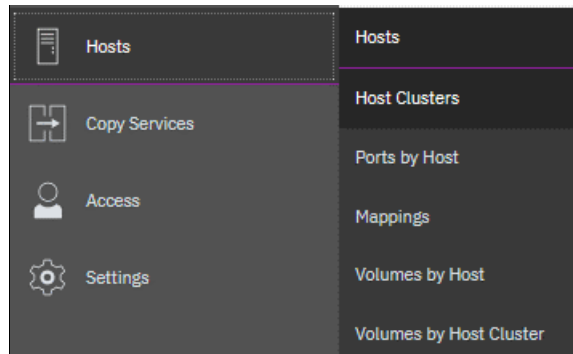

Figure 7-26 Host clusters menu
1. From the menu on the left, select **Hosts** → **Host Clusters** (see Figure 7-26).